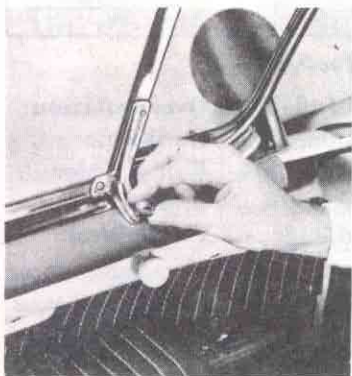

Fig. 36—Tightening Thumbscrew
3. Turn thumbscrew on brace at ventilator division strip into bracket in door trim rail to complete the installation (fig. 36).